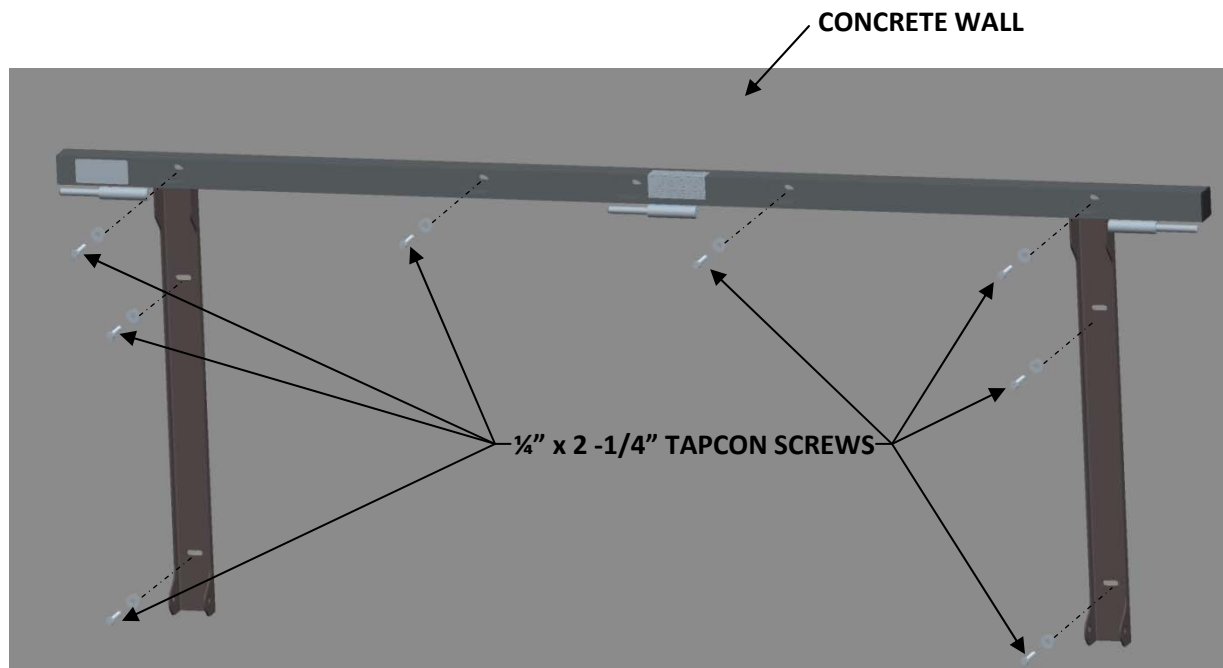

Figure 1
5. Attach the horizontal wall bracket to the concrete wall using the Tapcon screws and the ¼" flat washers, item number 20, part number BS000110 as shown in Figure 1.
8. Attach the Vertical Wall Brackets to the concrete wall using the Tapcon screws and the ¼" flat washers, item number 20, part number BS000110 as shown in Figure 1.